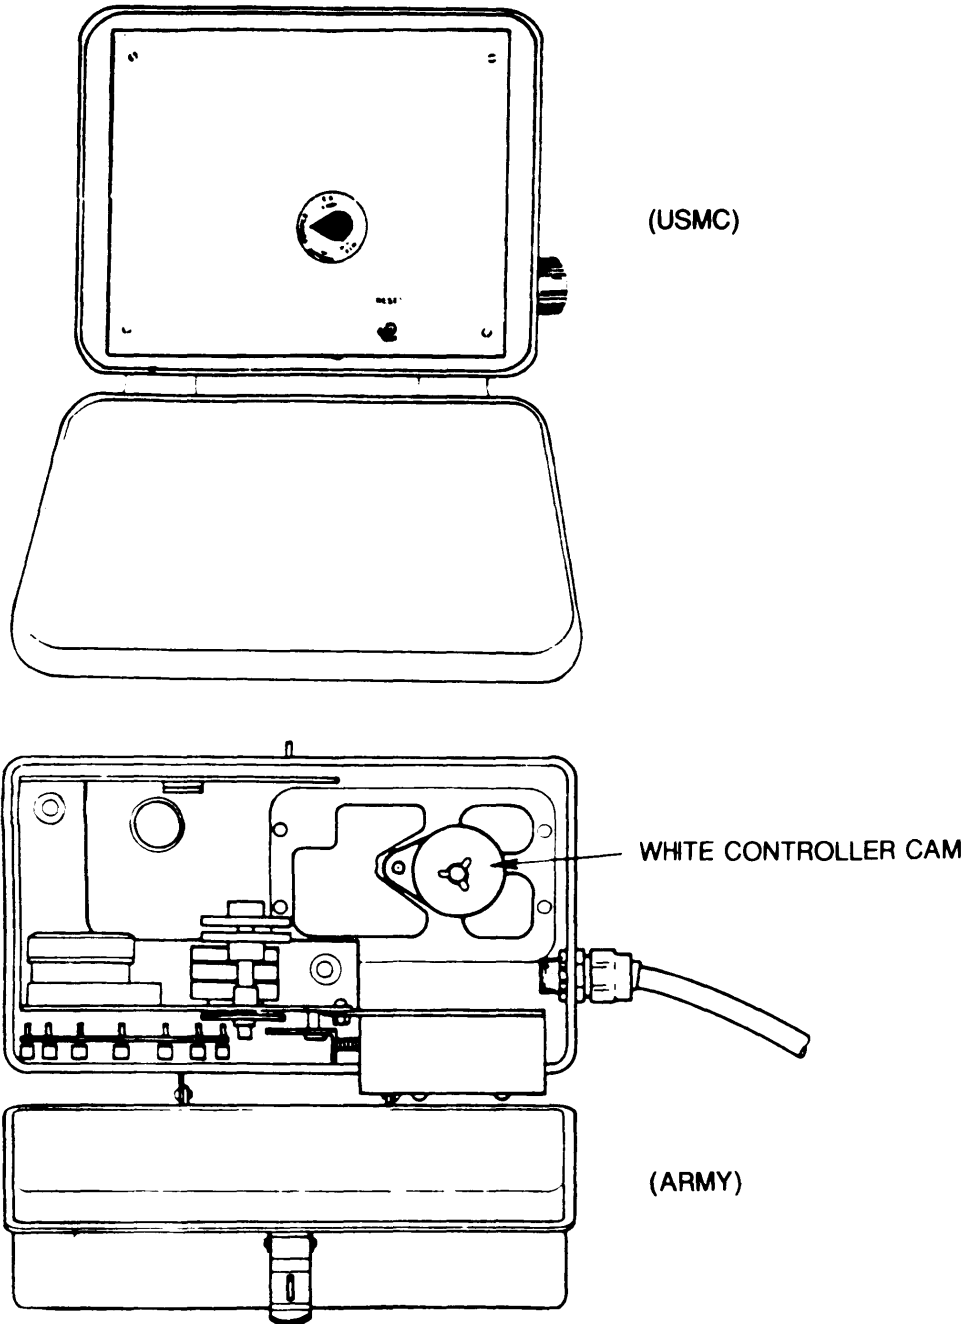

Figure 3-46. Multimedia Filter Timer Cam Assembly
- (3) Close multimedia filter drain valve as identified at drain valves location.
- (4) Pour 36 ounces (1.02 kilograms) of 51/4-percent chlorine solution over surface of filter bed.
- (5) Replace gasket (4), top hand-hole cover (2), and eight nuts (1) on filter tank.
- (6) (ARMY) Open backwash timer and lower timer panel to expose cam assembly (figure 3-46). (USMC) Set switch to SERVICE position.
- (1) Replace all damaged nuts, bolts, screws, washers, and other hardware.
- (2) Replace all used hose clamps and flexible pipe.
- (3) Replace all damaged, fractured, or unserviceable pipe fittings, tube assemblies, and pipe.
- (4) Repair by straightening, or replace all tank brackets and braces and clamps.
- (5) Replace damaged, unrepairable, or unserviceable cartridge fitter assembly.
f. Installation. (Figures 3-46)